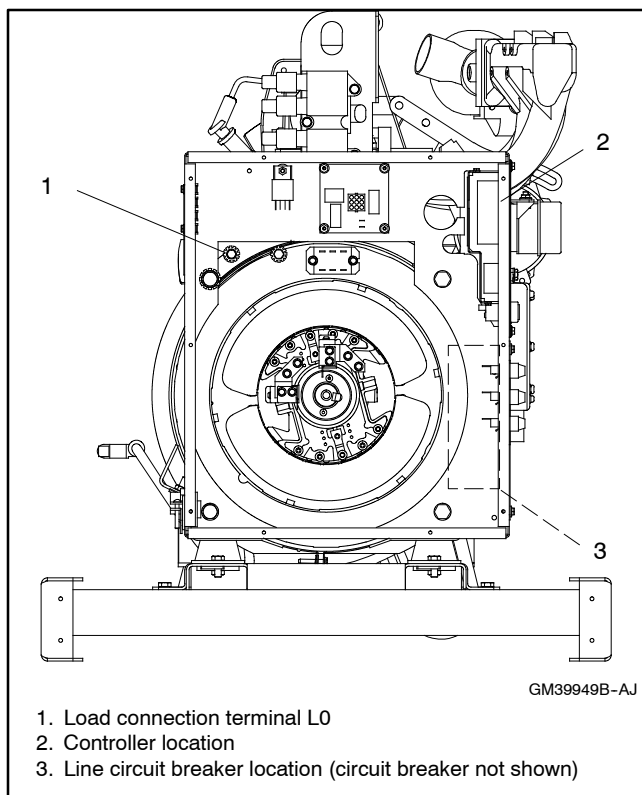

Figure 5-11 Circuit Breaker and L0 Terminal Location
1. Connect a digital voltmeter from one side of the circuit breaker to the L0 terminal on the end bracket casting. See Figure 5-11. Set the meter to measure voltage.